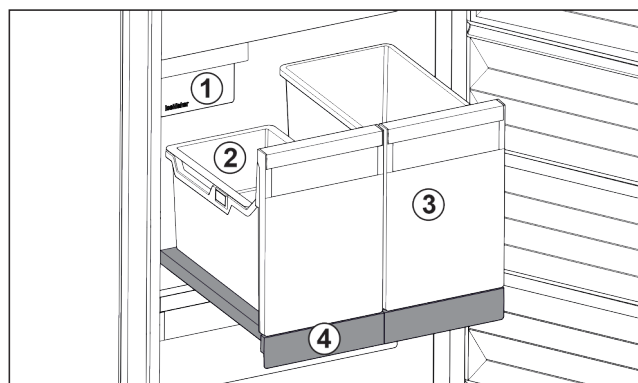

Fig. 137 Pull-out board with IceTower
(2) Hang-on tray for ice cubes
(4) Pull-out board
There are two high (IceTower) containers on the pull-out board. Ice cubes from the IceMaker are collected and stored in the Fig. 137 (2) container. The container Fig. 137 (3) is suitable for storing tall foodstuffs or beverages such as pizzas or alcoholic drinks.